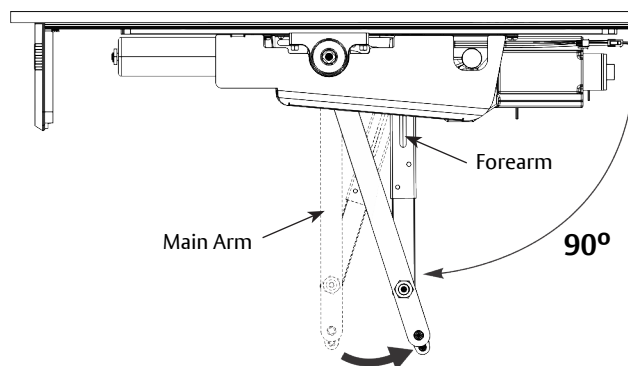

Figure 23 View from ceiling looking downward
5. With door closed, rotate main arm away from hinge until forearm is perpendicular (90 degrees) with door. (Figure 23)